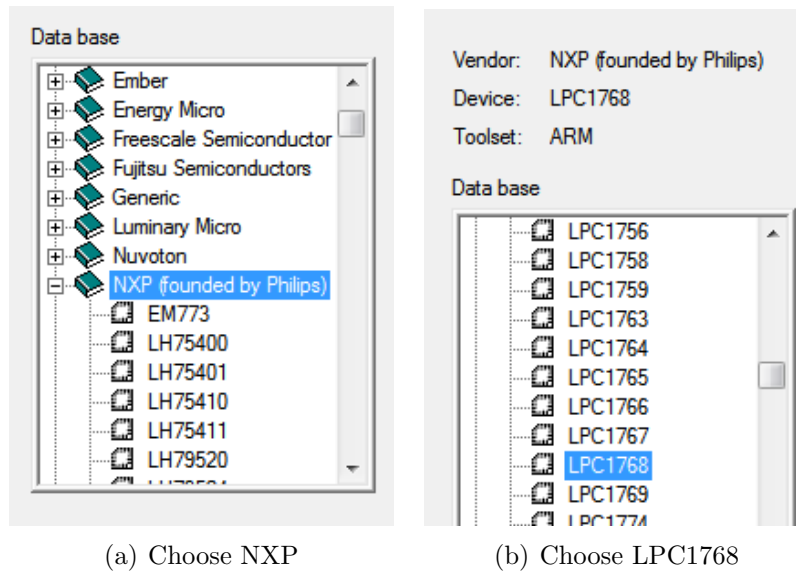

Figure 7.2: Keil IDE: Choose MCU
- Choose NXP(Founded by Philips) \rightarrow LPC1768 (See Figure 7.2(a) and Figure 7.2(b))